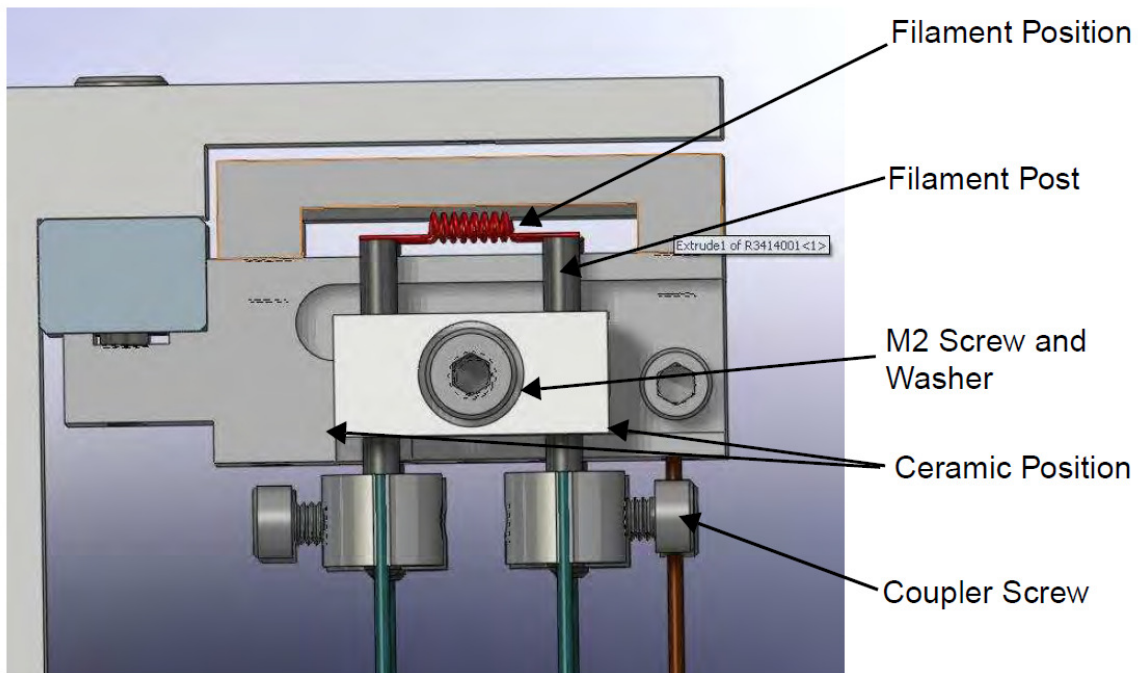
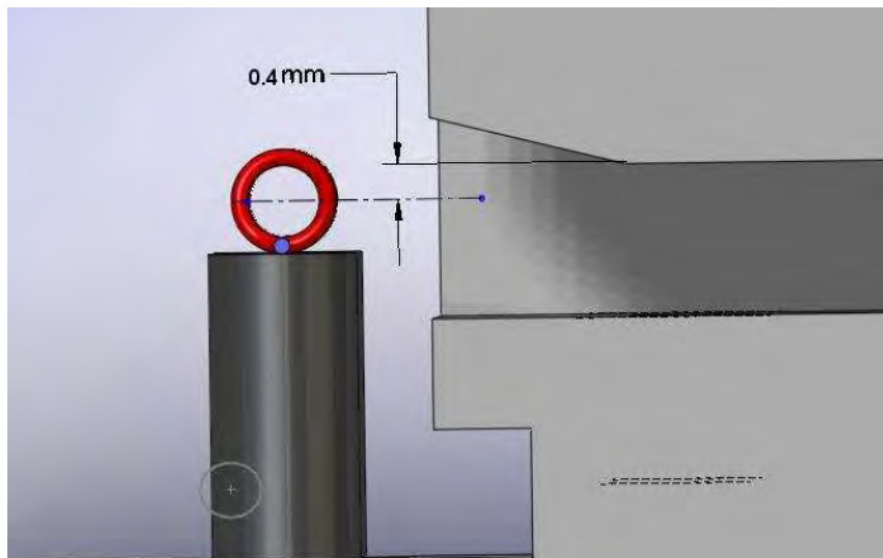

Figure 3-10. Filament positioning
Figure 3-11. Filament alignment
22. Insert new filaments into a pair of couplers. Verify filament alignment as shown in Figure 3-10 and Figure 3-11. Keep screws loose while aligning the filament position, then tighten screws securely once aligned.